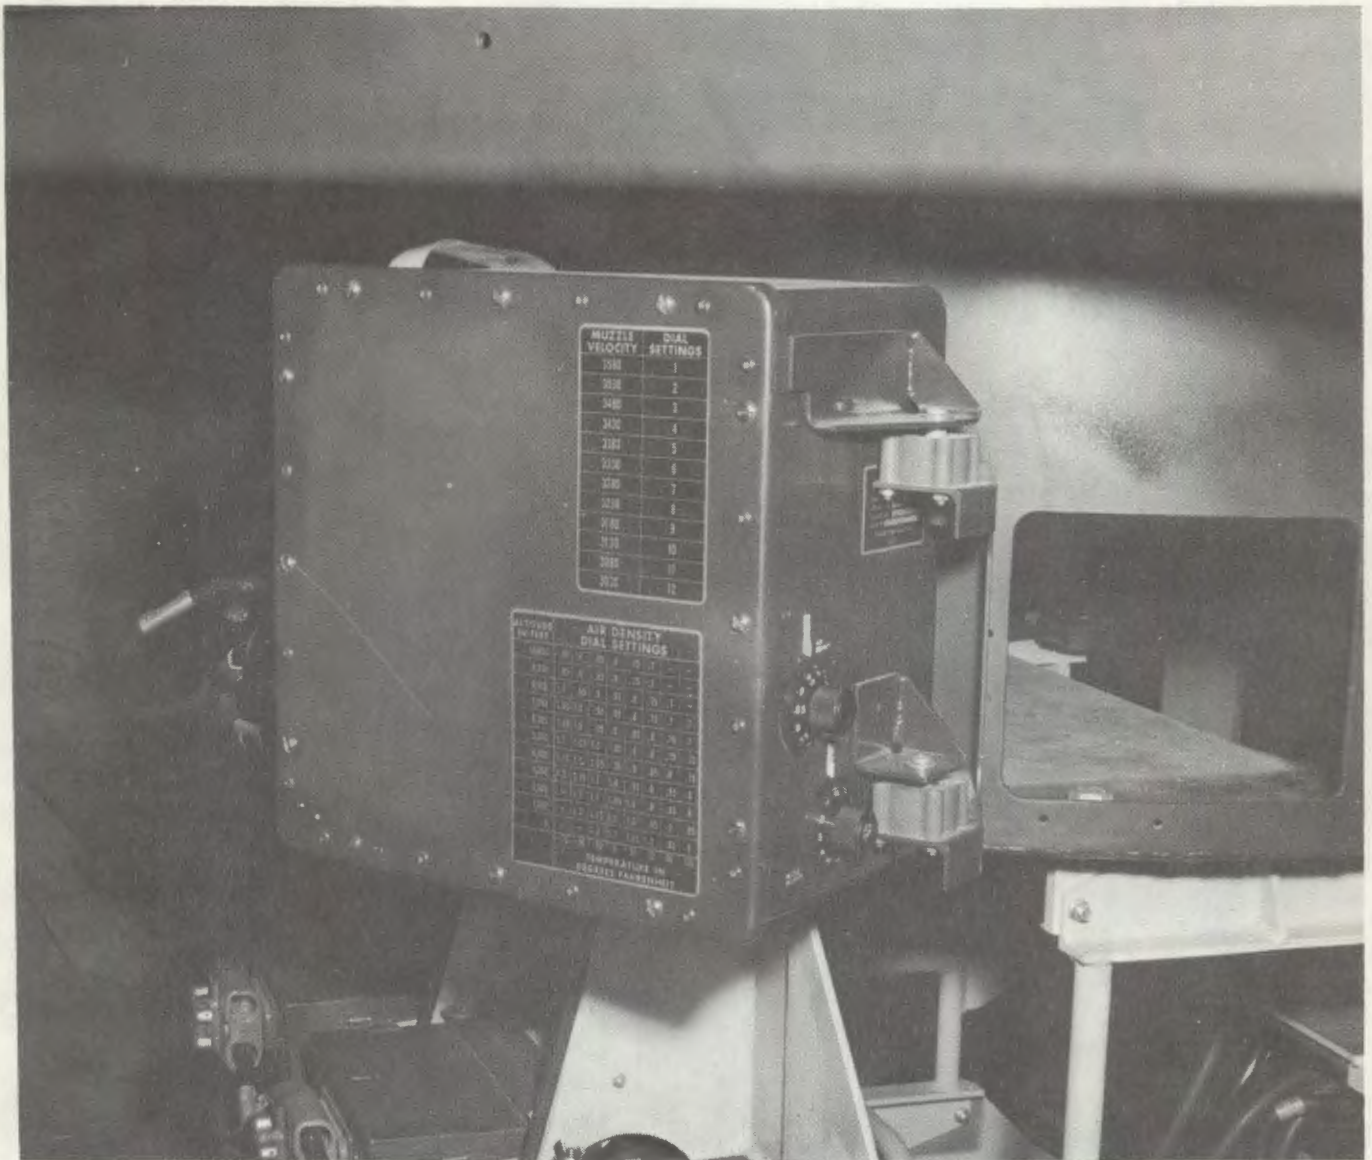

Figure 3-18. External range unit.
i. Sight Current Generator (fig. 3-18).